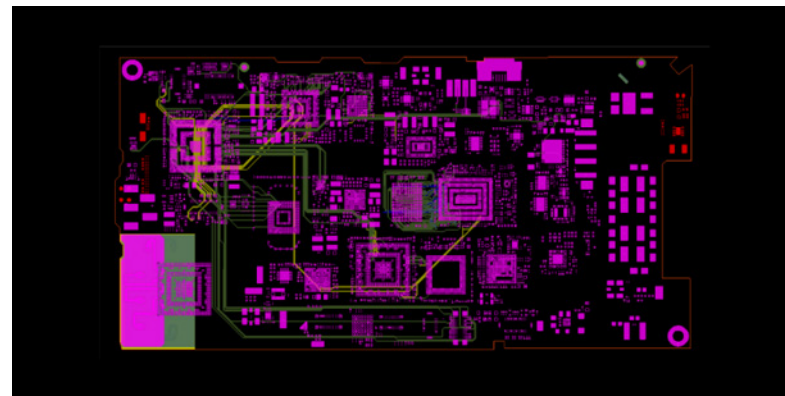

Figure 1: Cadence originated PCB imported into AWR software through an IPC-2581 file format
To successfully integrate RF/microwave content and mixed-signal designs, PCB layout tools and RF circuit design software must exchange design data efficiently. AWR software offers an RF/microwave intellectual property (IP) creation platform with import and export functionality to provide a pathway to and from Cadence Allegro or OrCAD® PCB design tools (Figure 1).